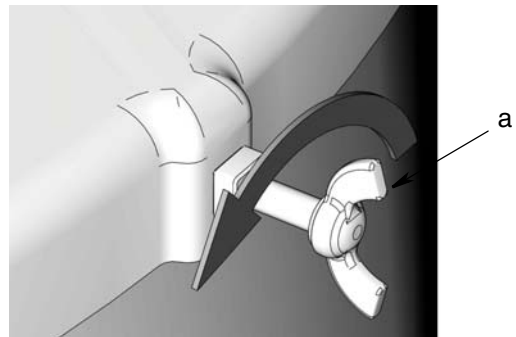

FIG. 5
2. Remove drum cover by loosening thumb screws (a) (FIG. 5).